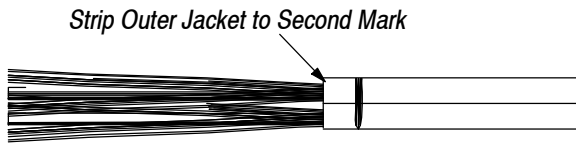

Figure 12
4. Using the combination strip tool, strip the outer jacket to the SECOND mark. See Figure 12.